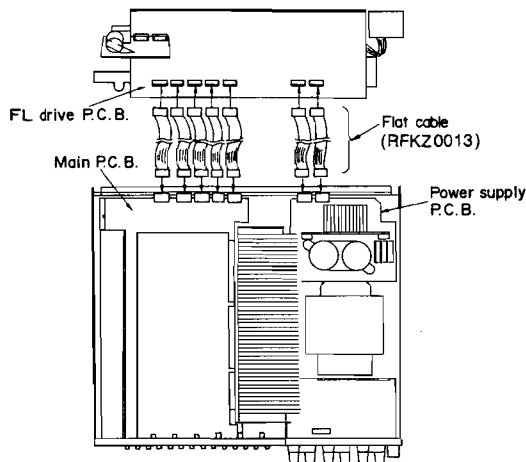

Fig. 4
4. Remove the motor from the fan casing. (See Fig. 4)
(Fig. 4)
10. When checking the soldered surface of the FL drive P.C.B. operation P.C.B. and replacing the parts, do as shown in the Fig. 4.